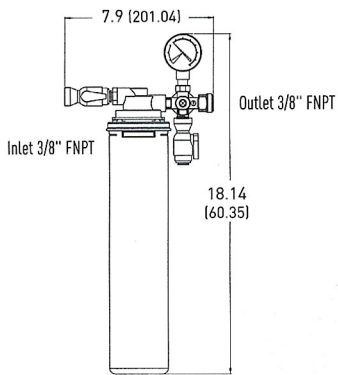

Figure 1 – Single System
1. Use the predrilled mounting holes in the manifold bracket as guides. Mark and drill anchor holes. Mount securely. See Figures 1 – 3.